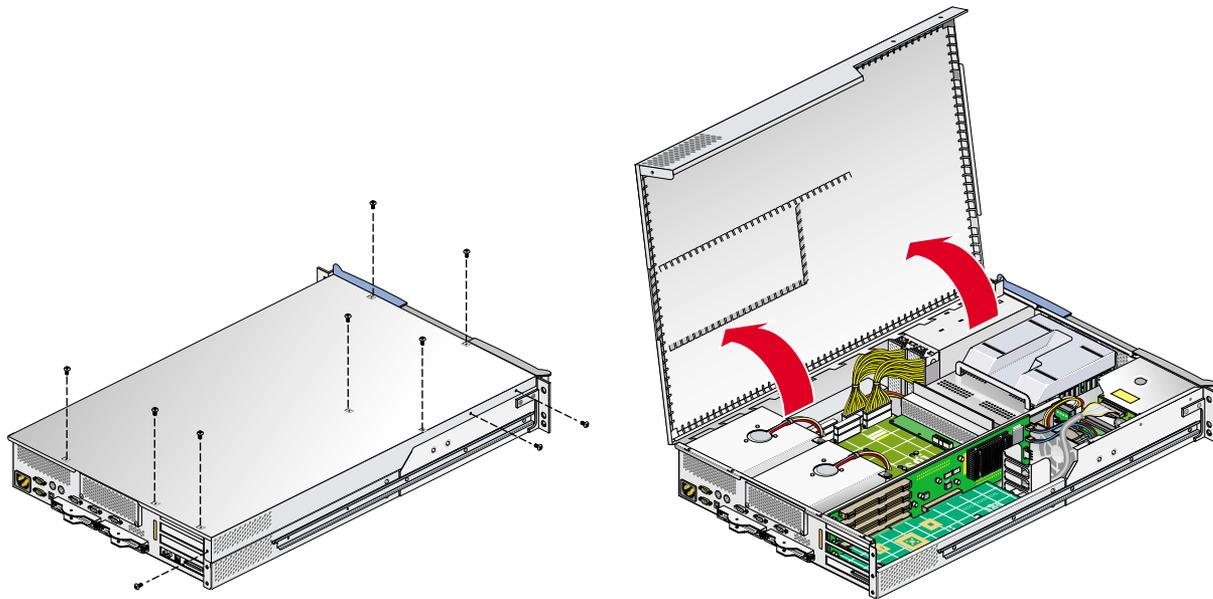

Figure 7-1 Removing the Top Cover Screws on the Module
5. Remove the ten Phillips screws as shown in Figure 7-1 and lift the hinged cover.